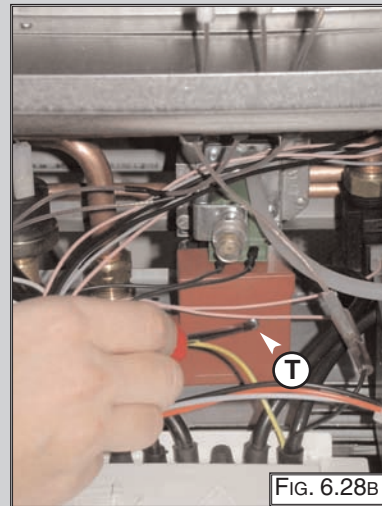

FIG. 6.28B
2. Remove the screw "T" (FIG. 6.28B);